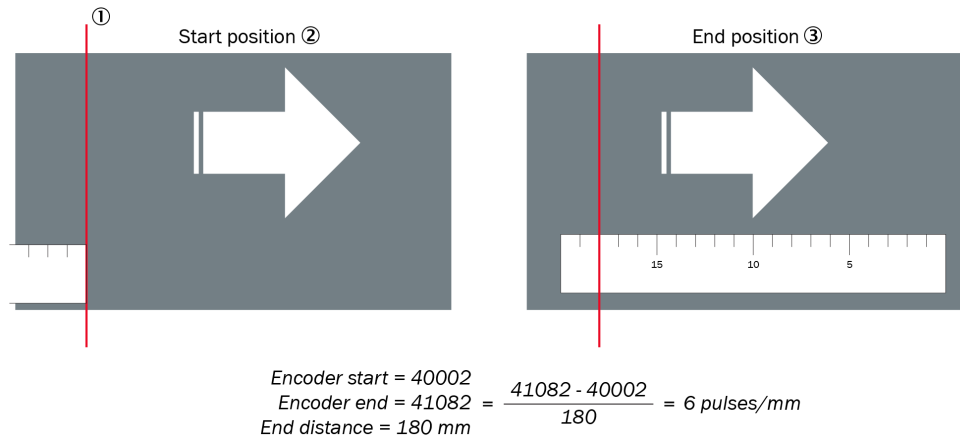

Figure 13: Calculating encoder resolution
2. Place a ruler or other measuring equipment on the conveyor belt, see figure 13, page 29.